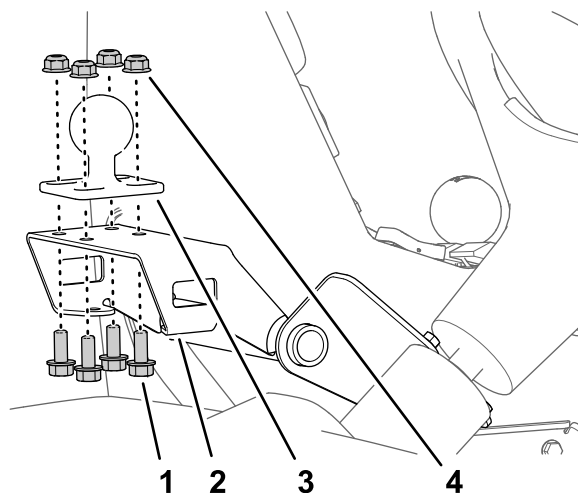

Figure 163
1. Assemble the ball mount to the bracket for the monitor mount (Figure 163) with the 4 flange-head bolts (5/16 x 3/4 inch) and 4 flange locknuts (5/16 inch).